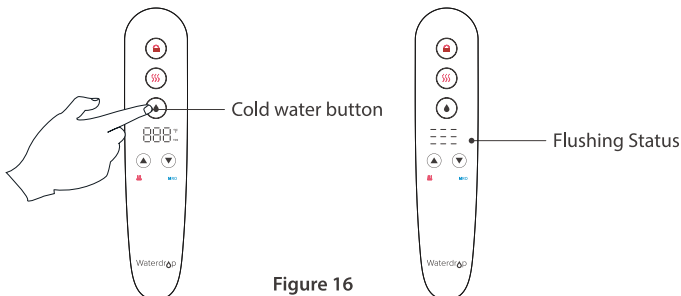

Figure 16
d. Turn on the faucet and flush for 10 minutes. Touch the button  and turn on the faucet. The system flushes for 10 minutes until there is no water output from the faucet. **(Figure 16)**